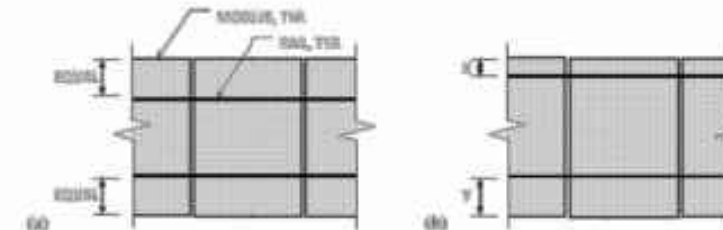

Figure 2
- These tables assume that each module is installed centered over a pair of rails, as shown in Figure 2(a). In cases where one rail is closer to the midpoint of the module, as shown in Figure 2(b), adjustments to the spacing may be required.